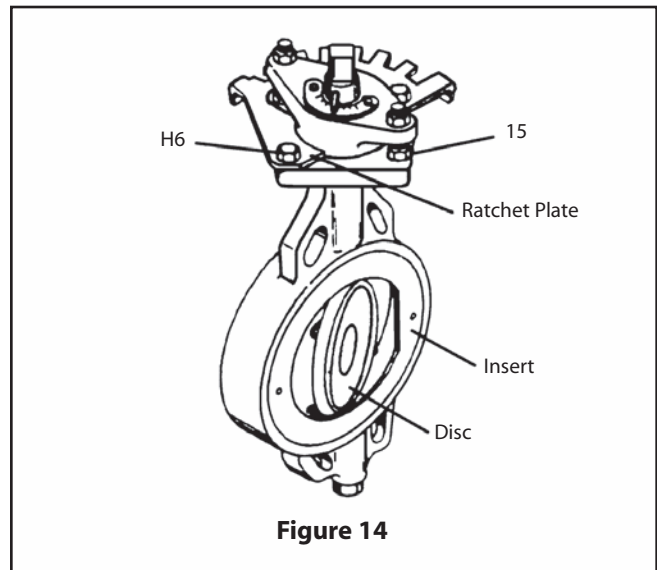

Figure 14
7.3 Setting Handle Stop (Figure 14)